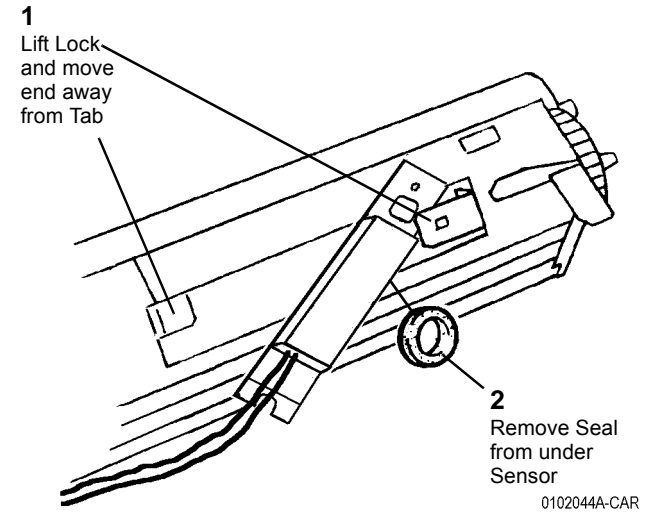

Figure 2 Removing ATC Sensor
13. Remove ATC Sensor (Figure 2).